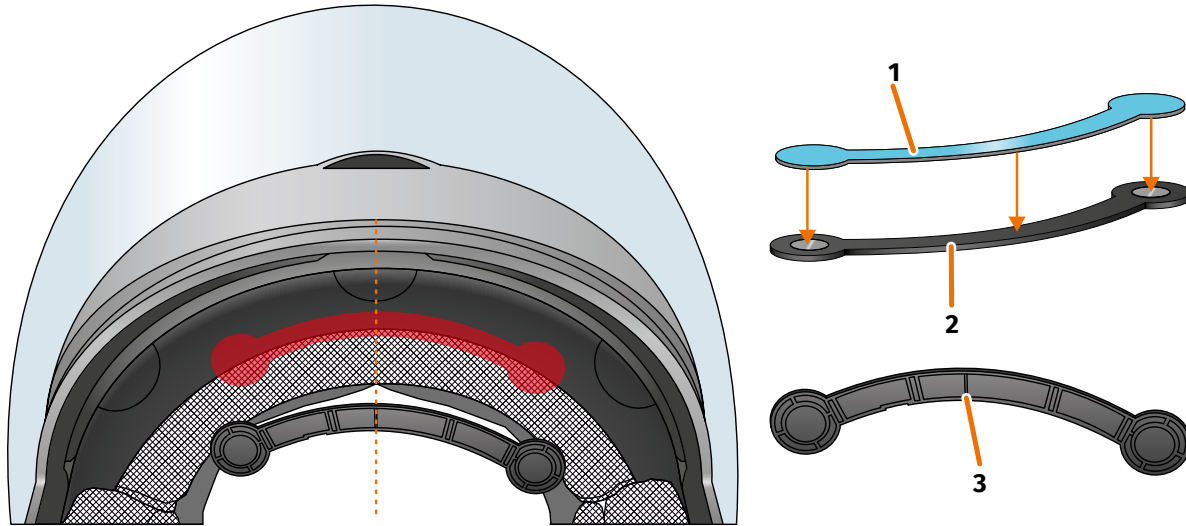

FIGURE 10: Using an adhesive pad to glue in the narrow helmet adapter
2. Stick the adhesive pad (FIGURE 10/1) to the side of the helmet adapter on which you can see the magnets.
3. Place the helmet adapter (FIGURE 10/2) in the forehead section of the helmet, between the inner shell and the outer shell (FIGURE 10/shown in red). There is a mark at the bottom of the helmet adapter (FIGURE 10/3) that should be placed on an imaginary line between the middle of the helmet and the middle of your face (FIGURE 10/dotted line). Make sure the helmet adapter does not collide with the sun visor.